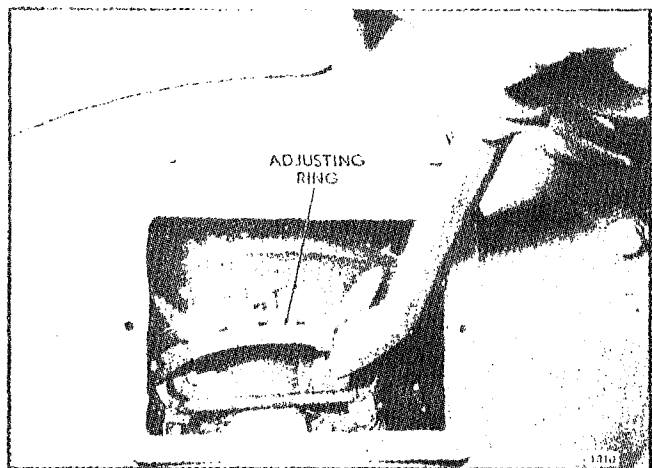

Fig. 10 - Adjusting Clutch
3. Remove the clutch adjusting ring spring lock screw and lock from the inner clutch pressure plate and adjusting ring. Then, while holding the clutch drive shaft to prevent the clutch from turning, turn the clutch adjusting ring counterclockwise as shown in Fig. 10 and tighten the clutch until the desired pressure on the outer end of the hand lever, or at the